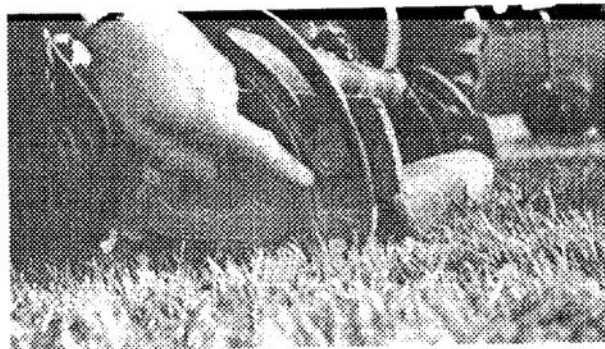

Figure 13
2. Low Height-of-Cut — If height-of-cut is set too low, the bedknife rather than the rear roller supports the mower. This causes the turf to push excessively against the bedknife. Consequently, the heavy contact between bedknife and reel causes rapid wear of both parts and a poor quality of cut. Therefore, always set height-of-cut so six or more notches show below bottom edge of roller adjusting nut (Fig. 13).